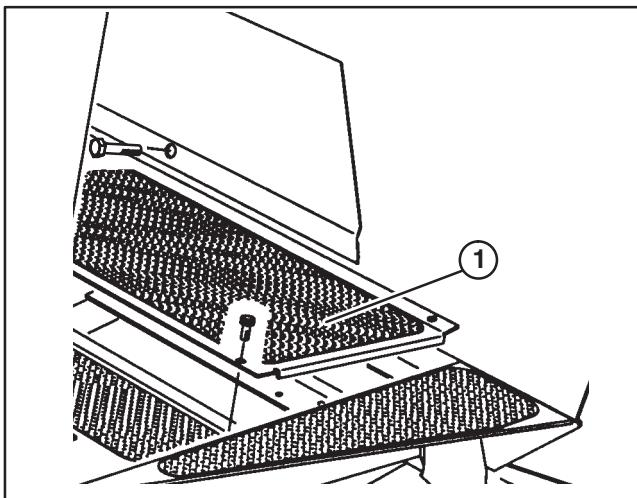

Figure 4
REPLACE FLOOR PANEL FASTENER (Fig. 4)
1. Remove fastener securing left front corner of floor panel to frame (Fig. 4).
- 2.** Replace with 5/16-18 x 5/8" lg. flange head capscrew supplied in loose parts (Fig. 4).